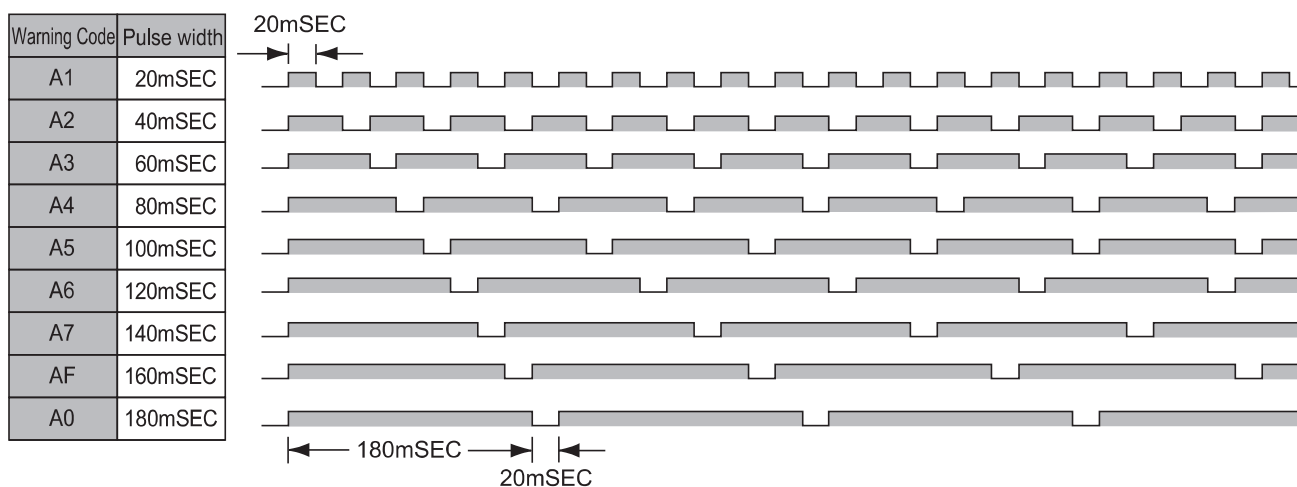

Fig. 38
When a warning occurs, a warning signal is output to the external Input / Output Connector A ③ (terminal No. 20: WARNING). (Refer to Fig. 38.)